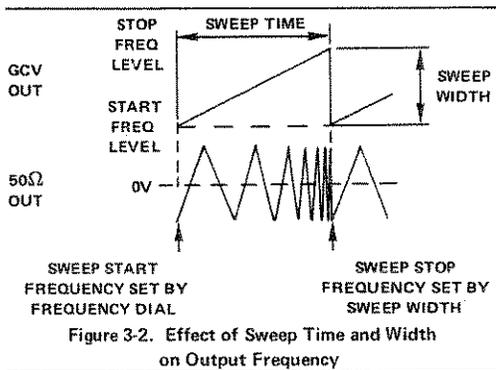

Figure 3-2. Effect of Sweep Time and Width on Output Frequency
③ **SWEEP WIDTH Control**
The SWEEP WIDTH control determines the amount of frequency change that will occur in sweep mode. After the sweep start frequency is set by the frequency dial ②, SWEEP WIDTH determines the sweep stop frequency (see figure 3-2).
④ **SWEEP MODE Selector**
Frequency of the internal sweep ramp, and thus, the sweep repetition rate, is governed by the SWEEP TIME control (see figure 3-2).